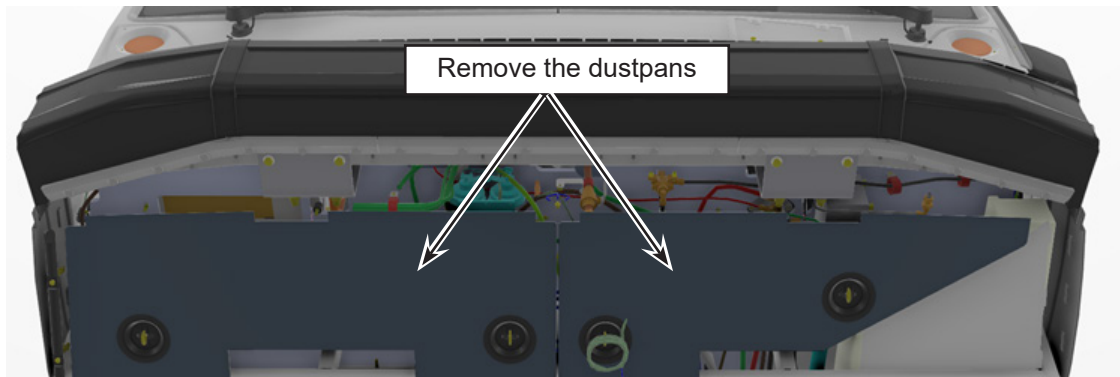

Figure 1 - Dustpan to remove
- 1.2. Remove the front dustpan. See Figure 1